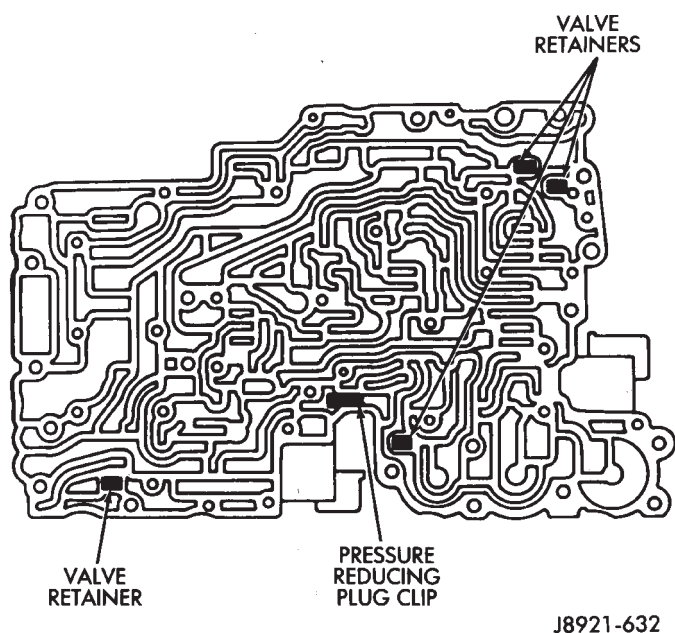
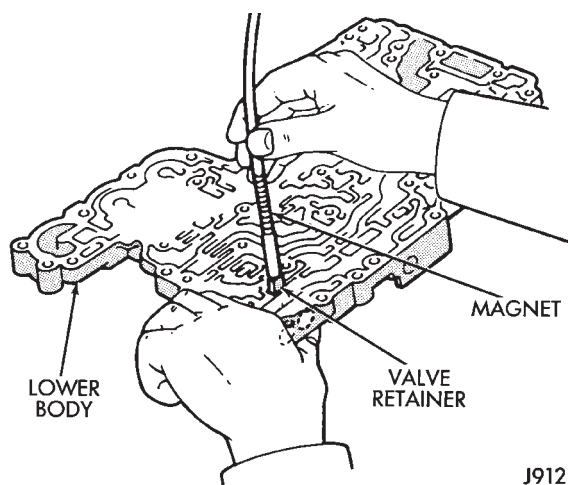

Fig. 2 Valve Retainer And Clip Location
Fig. 3 Removing 1-2 Shift Valve Retainer
(3) Note or mark position of valve retainers and pressure reducing plug clip for assembly reference (Fig. 2). Do not remove the retainers at this time.
(4) Remove solenoid No. 1, 2 and 3. Discard solenoid O-rings.
(5) Remove 1-2 shift valve retainer (Fig. 3).